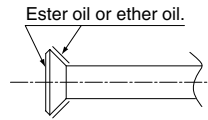

Fig. 5
- **Apply ether oil or ester oil to both inner and outer sides of the flare** and screw in the flare nut three to four turns first by hand at the time of connecting the flare nut. (Refer to Fig. 5)